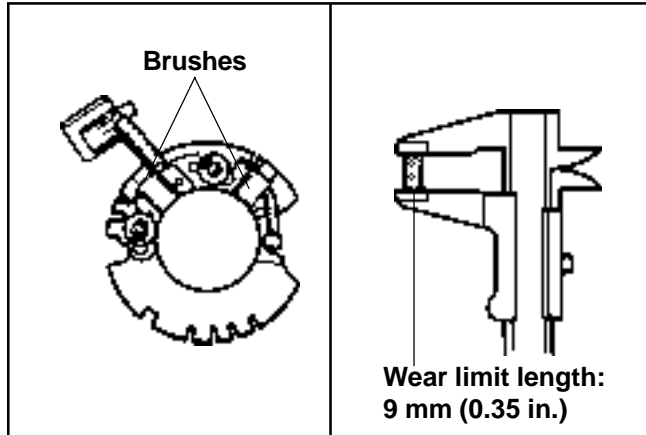

Figure 8-33. Brush Checking.
- Inspect both the springs and brushes for wear, fatigue, or damage. Measure the length of each brush. The minimum length for each brush must be **9 mm (0.350 in.)**. See Figure 8-33. Replace the brush plate assembly if the condition of parts is out of specification or questionable.